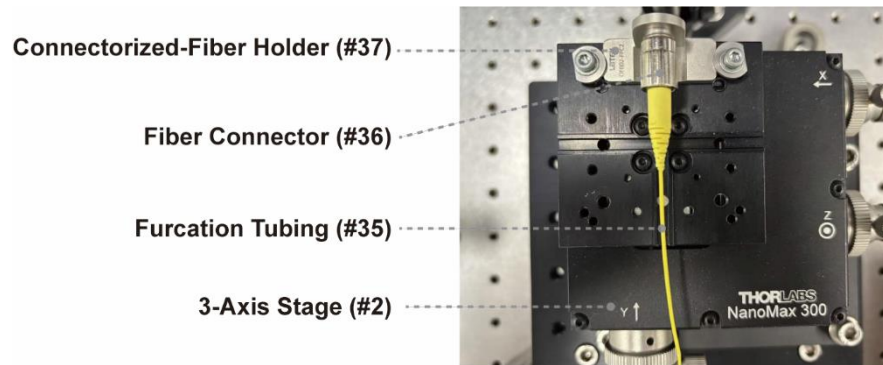

Figure 5.1 Mount the assembled fiber onto the connectorized-fiber holder.
Step 50. Mount the assembled fiber onto the connectorized-fiber holder (#37), and optimize the laser-to-fiber coupling using the protocol described in Step 4 (Figure 5.1).